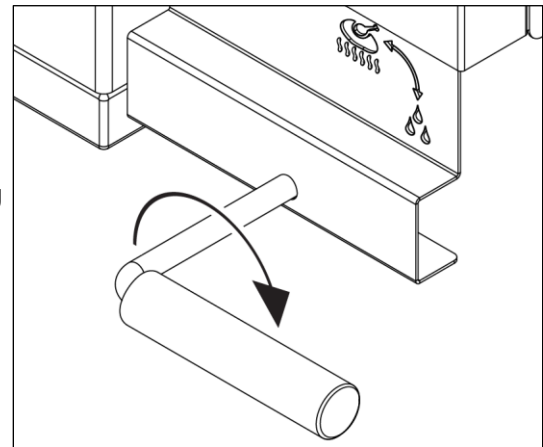

Figure 5-2
5. Rotate the Main Drain Valve Handle to Clean   as shown in Figure 5-2.